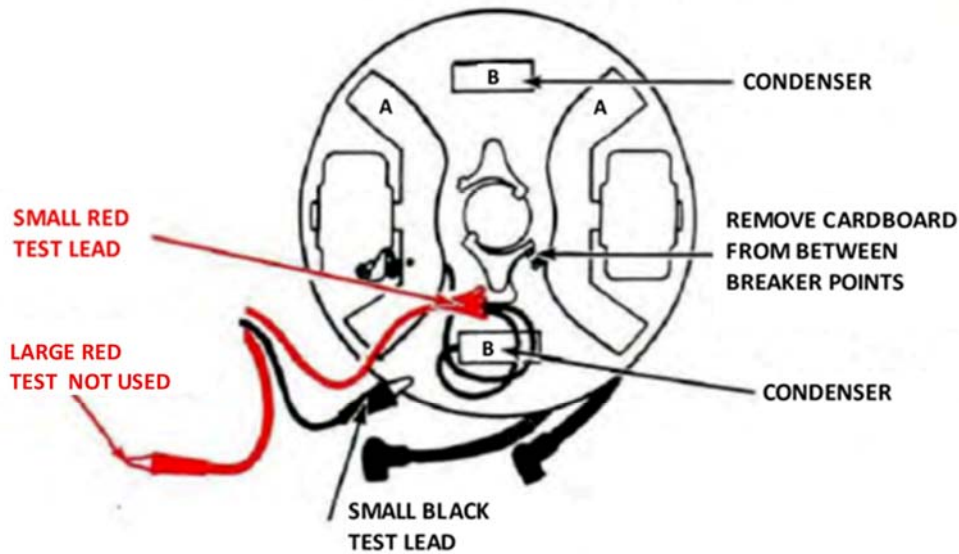

Figure 16
2. **Connect small red test lead to body of condenser.** Point B see illustration Fig. 16